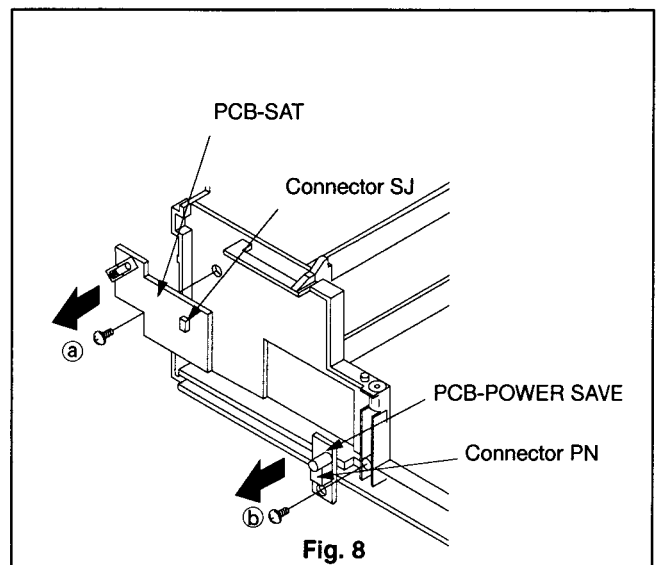

Fig. 8
- 3 Disconnect connector SJ and unscrew the screw (a) as shown in Fig. 8 to remove the PCB-SAT in the direction shown by the arrow.
- 3 Disconnect connector PN and unscrew the screw (b) as shown in Fig. 8 to remove the PCB-POWER SAVE in the direction shown by the arrow.